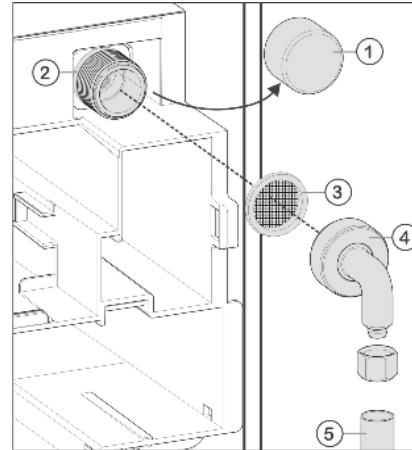

Fig. 25
- ▶ Remove the cap *Fig. 25 (1)* from the solenoid valve *Fig. 25 (2)*.
- ▶ Ensure that the gasket *Fig. 25 (3)* is inserted in the elbow connection *Fig. 25 (4)* supplied.
- ▶ Connect the elbow adapter *Fig. 25 (4)* to the solenoid valve *Fig. 25 (2)* and tighten with an open-ended wrench, for example.
- ▶ Connect the domestic water supply *Fig. 25 (5)* (e.g. copper pipe) to the elbow connector *Fig. 25 (4)*.